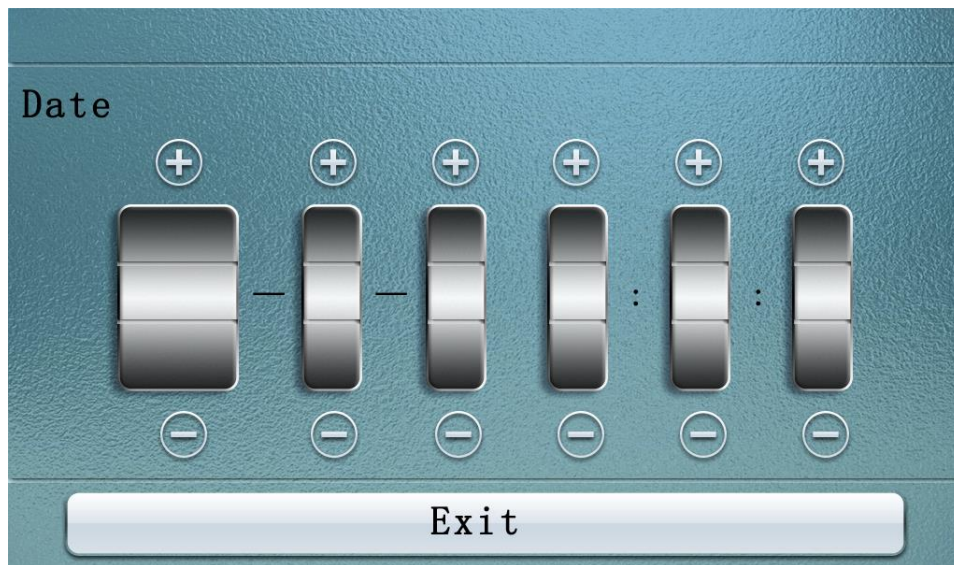

Figure 6
6、Click "clock modification" in figure 1 to enter the clock modification interface, as shown in figure 6: